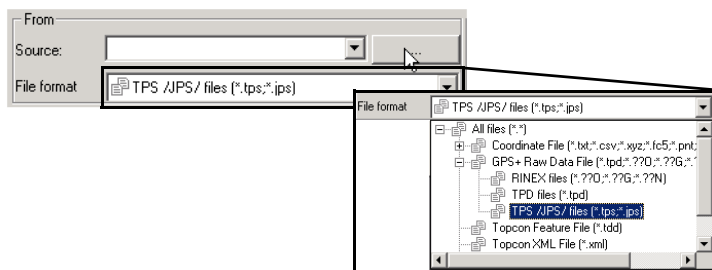

Figure D-23. Select Raw Data File Format
- In the *From* panel, select the *File format* of the raw data file (Figure D-23).